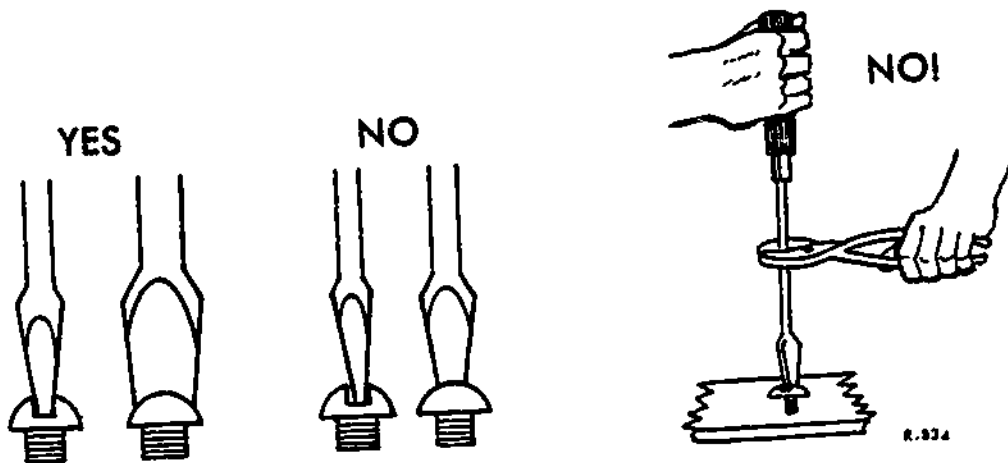

Figure 3.
4. Use a screwdriver that properly fits the screw slot. See figure 3.
5. Do not use another tool to increase the leverage of a screwdriver. To do so may damage the screwdriver tip or screw slot. See figure 3.